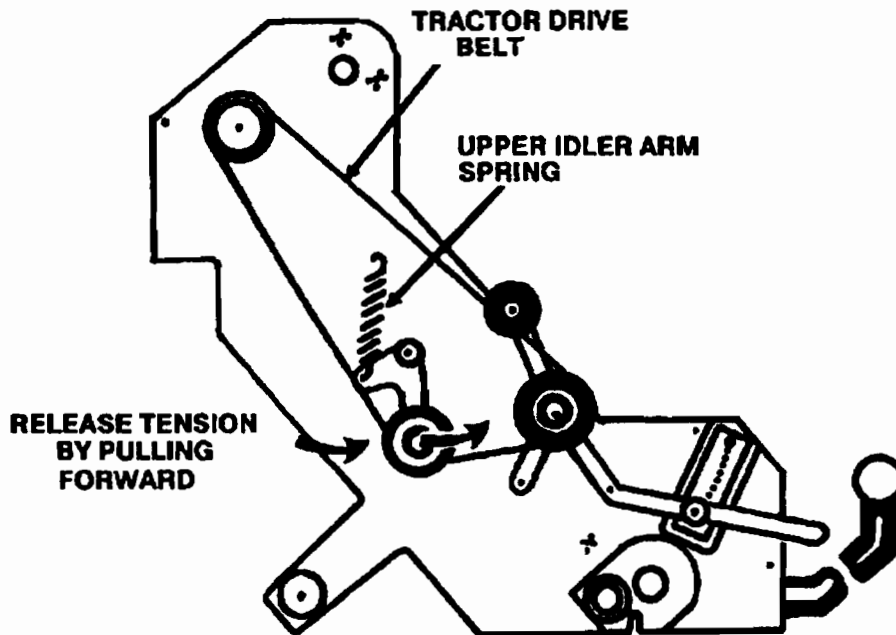

Figure 9. Re-Installing the Tractor Drive Belt
4. Pull the tension off the idler arm and slide the tractor drive belt back into position as shown in Figure 9.